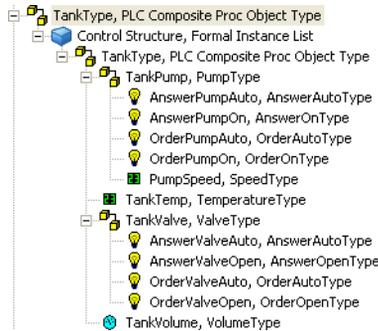

Figure 14. Finished ‘TankType’ Object Type
29. Expand the added object instances to view the finished ‘TankType’ object type, see Figure 14.